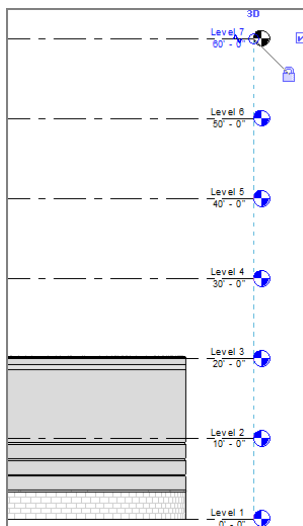

FIGURE 3.8 : Levels 1 through 7 are complete.
8. With the Level command still running, create Levels 4, 5, 6, and 7. Your elevation should now look like Figure 3.8. Also, look at your Project Browser. It shouldn't have any levels other than Levels 1 through 7 and Site. You also have new levels under the Ceiling Plans category.